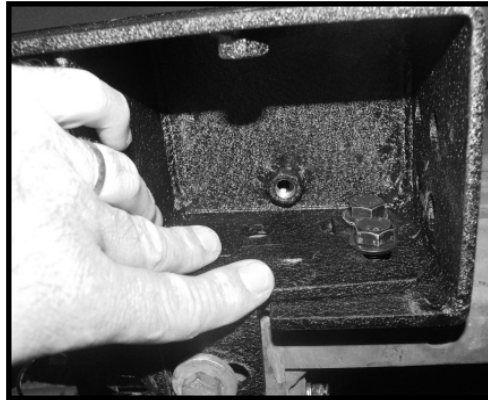

Figure 16.
10. From under the vehicle, insert a nut plate into the back channel of the crossmember. Insert 2 of the supplied M12 x 35 bolts and washers through the CJ lower frame bracket, sub-frame, crossmember, and thread into the nut plate (Figure 16). Do not tighten bolts at this time.